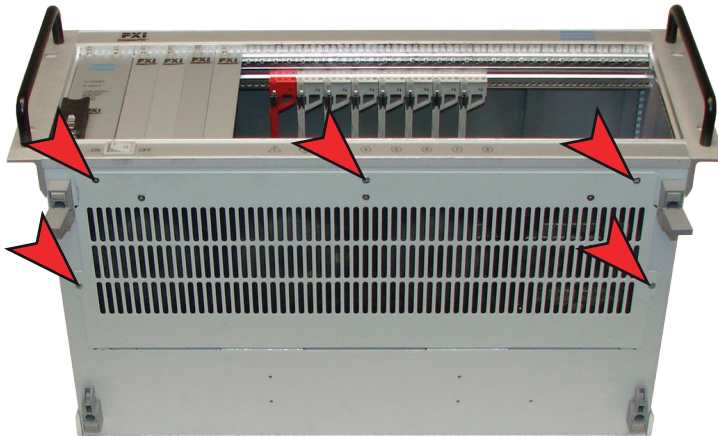

Figure 3.2 - Locations of the 5 screws securing the fan tray to the underside of the chassis
3. Remove the 5 crosshead screws securing the fan tray to the underside of the chassis - as shown in Figure 3.2.